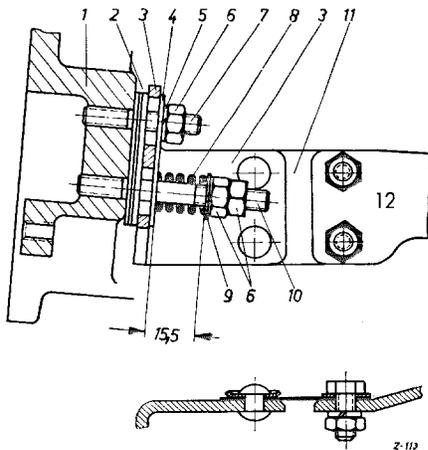

Fig. 26-1/6
2. Detach the swivel support (9) from the spring plate (8) by removing the two hexagon screws (Fig. 26-1/7).